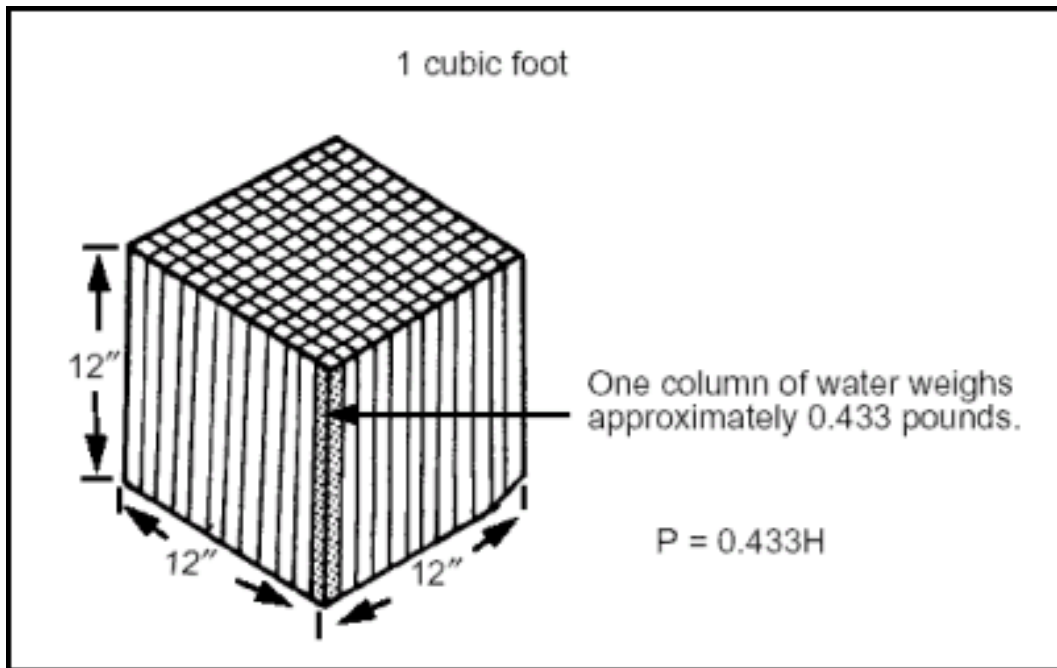

Figure E-1. Water Pressure
E-2. Pressure (P) is an expression, in psi (lb/in²), of the total gravitational force (lb) exerted at the base of an imaginary 1-inch square (in²) column of water-thus psi-of any column height or head (H) in feet (Figure E-1).